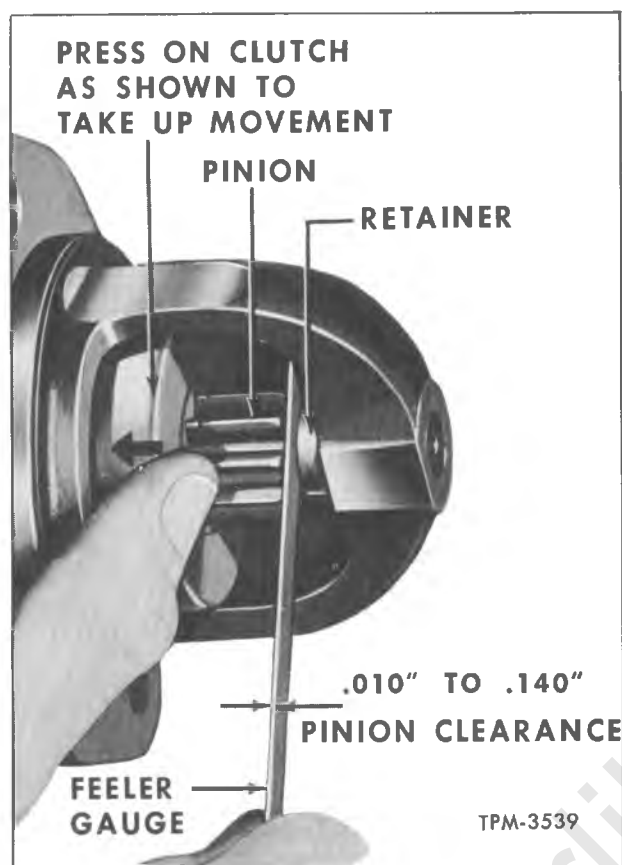

Figure 4—Measuring Pinion Clearance (Typical)
2. After energizing the solenoid with the clutch shifted forward, push the pinion back toward commutator as far as necessary to take up any possible slack, then check pinion clearance with a feeler gauge as shown in figure 4. If clearance is not within 0.010" to 0.140", disassemble and replace worn parts in solenoid and shift lever linkage.